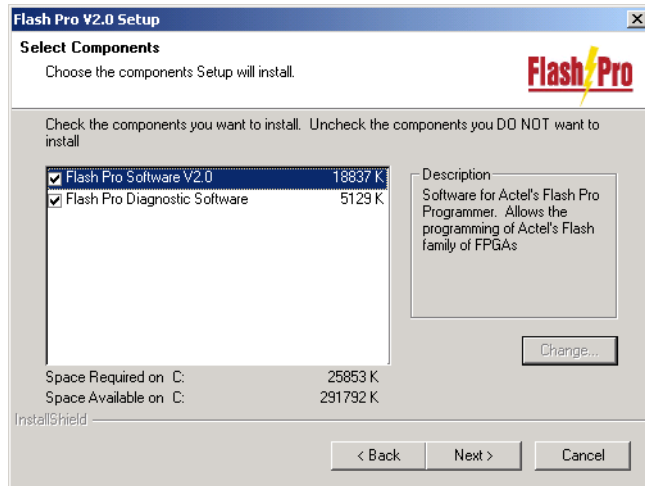

Figure 1-4. Flash Pro Components
5. Click **Next** to select the components to install, as shown in Figure 1-4.